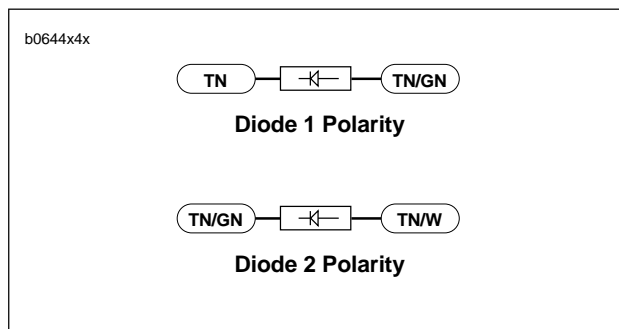

Figure 7-9. Diode Polarity
3. See Figure 7-9 Check spark plug cable resistance with an ohmmeter. Replace cables not meeting resistance specifications.